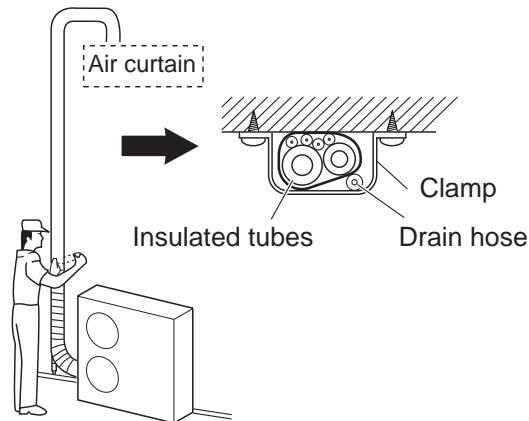

Fig. 6-14
3. Clamp the tubing bundle to the wall, using 1 clamp approx. each meter. (Fig. 6-14)